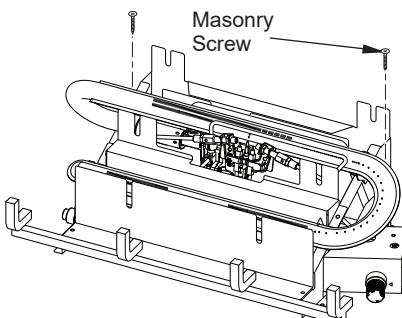

Figure 10 - Attaching Heater Base to Fireplace Floor
- Mark screw locations through holes in mounting brackets (see Figure 10). If installing in a brick-bottom fireplace, mark screw locations in mortar joint of bricks.
- Attach base assembly to fireplace floor using two masonry screws provided in hardware package (see Figure 10).